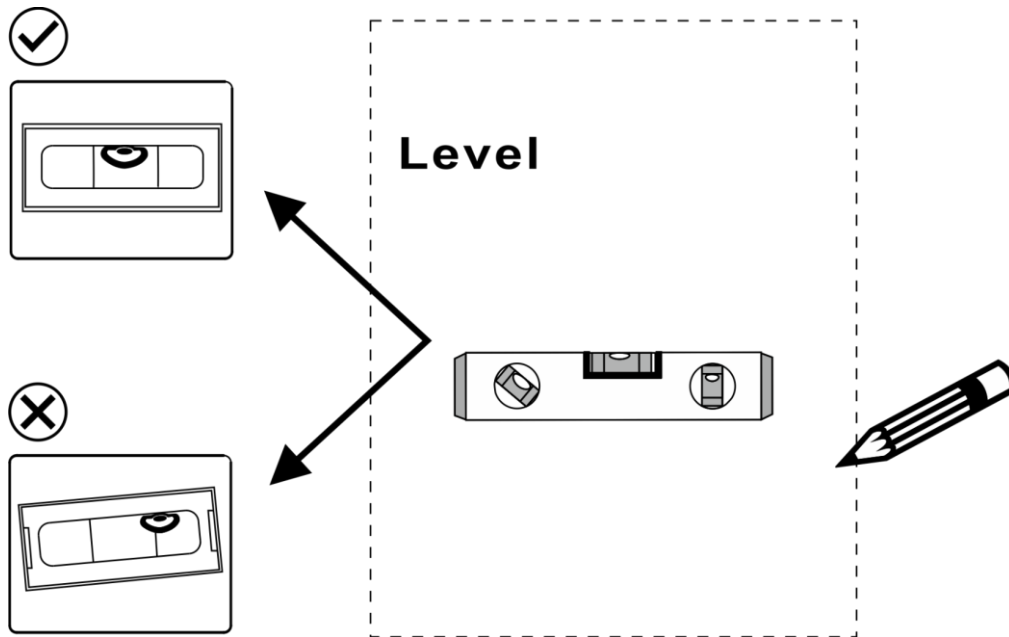

Fig. 15
- 02) Mark the drilling locations and make sure that the alignment is correct, as shown in Fig. 15.